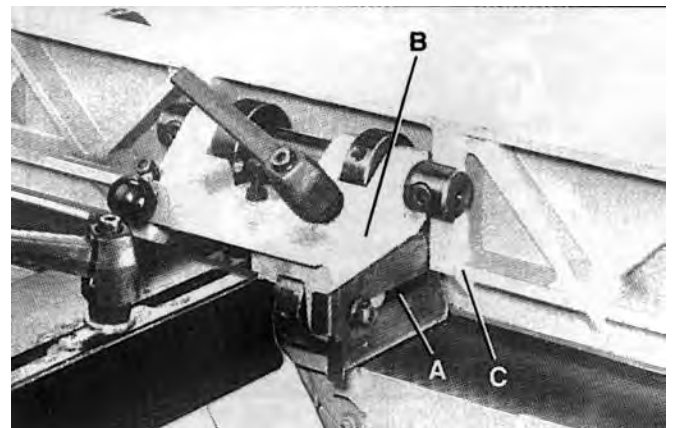
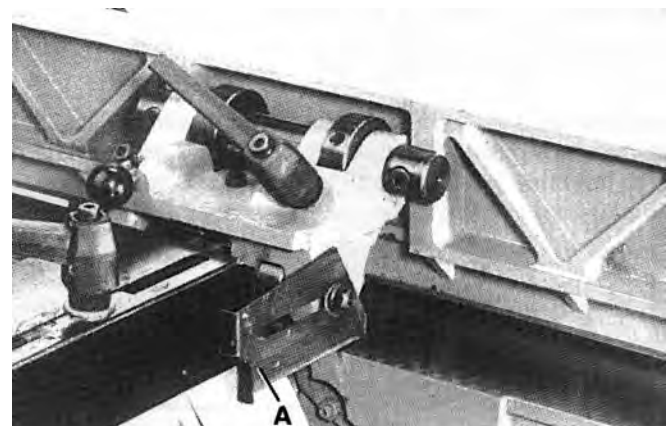

FIGURE 46
FIGURE 47
Two guards, one of which is shown at (A) Fig. 46, are provided on each side of the fence bracket (B) and the fence (C) limiting access to the cutterhead. When the fence is tilted, the guard (A) Fig. 47, can be pushed to the rear as shown. After the fence has been returned to the 90° position, simply push the guard (A) Fig. 47, forward to close up the opening. Fig. 46 illustrates the guard (A) properly adjusted.